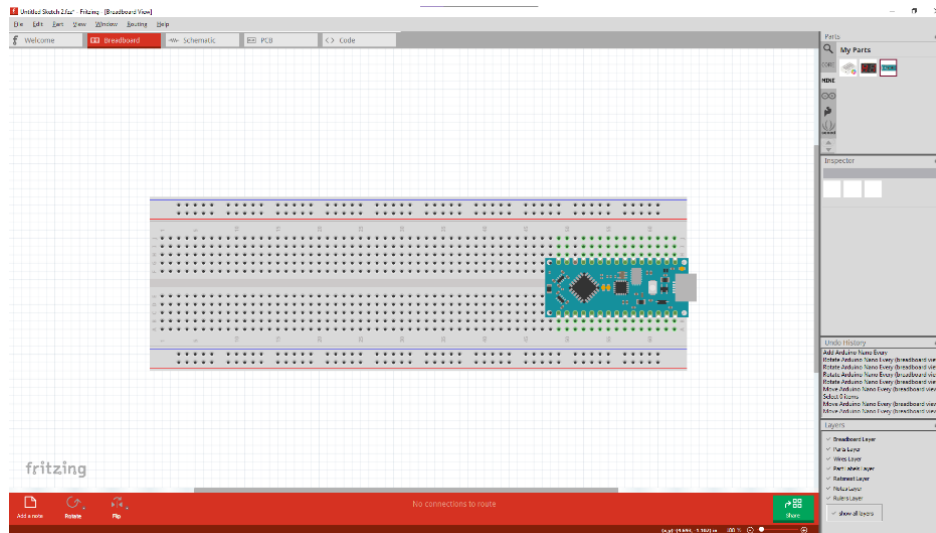

Figure 2. Default configuration for ECE 206.
- For this lab we will use the Arduino Nano (Rev. 3) found in the fourth category as a stand in for the Arduino Nano every since they have the same pinout. Click and drag the Arduino Nano into the main area and onto the breadboard. Since we are using the Arduino Nano Every for our labs, this will be our ' default configuration'. Your screen should look like Figure 2 (USB port facing off the board).